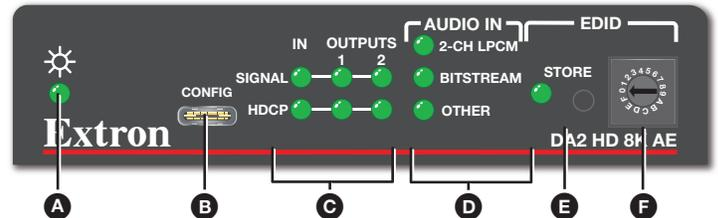

Figure 6. DA2 HD 8K AE Front Panel
1. Set the rotary switch (see figure 6, F on page 2) for the desired resolution (see EDID table on page 3).